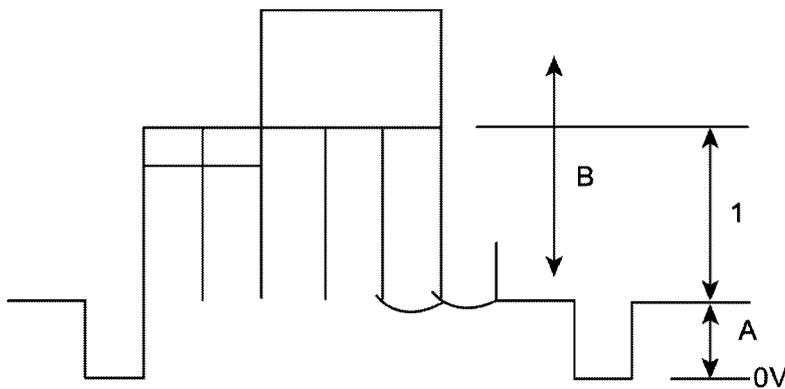

Fig. 4
5. Set (A) to $2.3 \pm 0.2V$ by BRT (CHK2) at measurement point TPL 2 Fig. 4.
1. Connect oscilloscope probe to TPA 40 or TPL 1 (R out) in Fig. 4 is $2.1 \pm 0.1V$.
2. Adjust "Sub Colour" so that waveform as in Fig. 4 (1) $2.2 \pm 0.1V$.